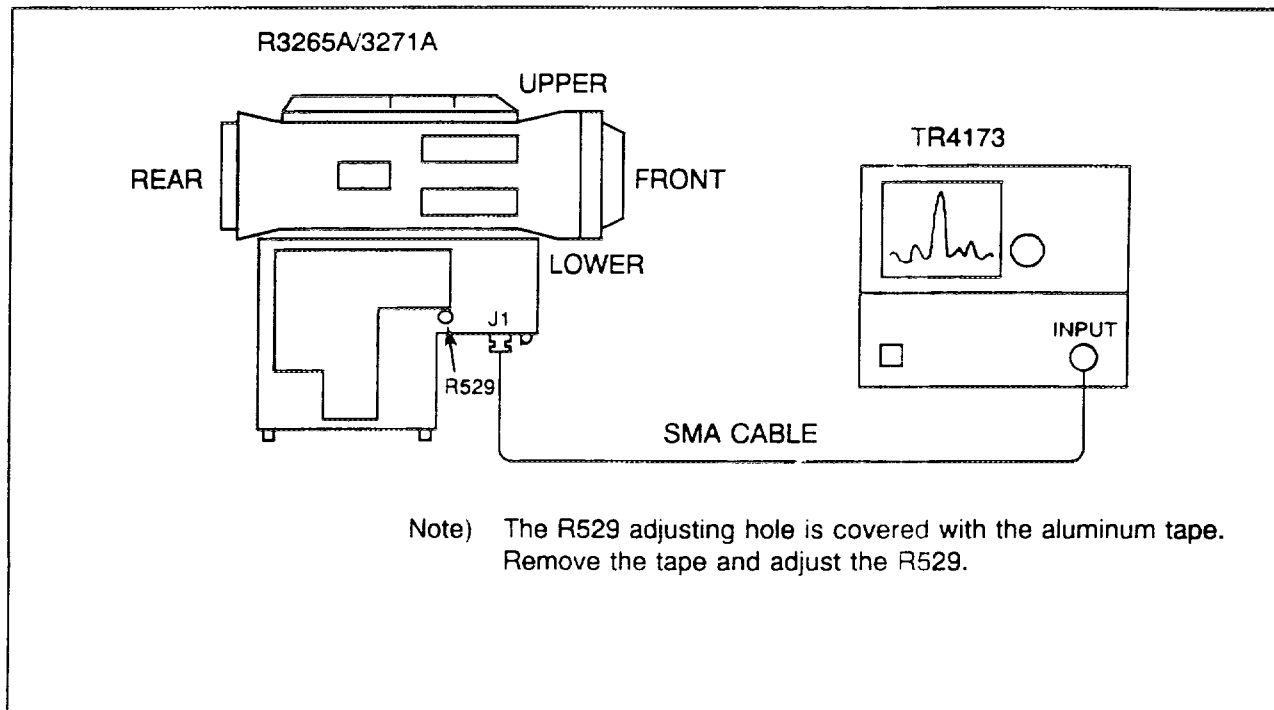

Figure 5-17 Sampler Synthe Adjustment
- (1) Remove the cover from the system.
- (2) Remove three screws from the synthesizer board.
- (3) Unplug the SMA connector from J1.
- (4) Connect the SMA cable between J1 and TR4173 (see Figure 5-17).
- (5) Turn on the POWER switch of R3265A/3271A, and set the controls as follows: